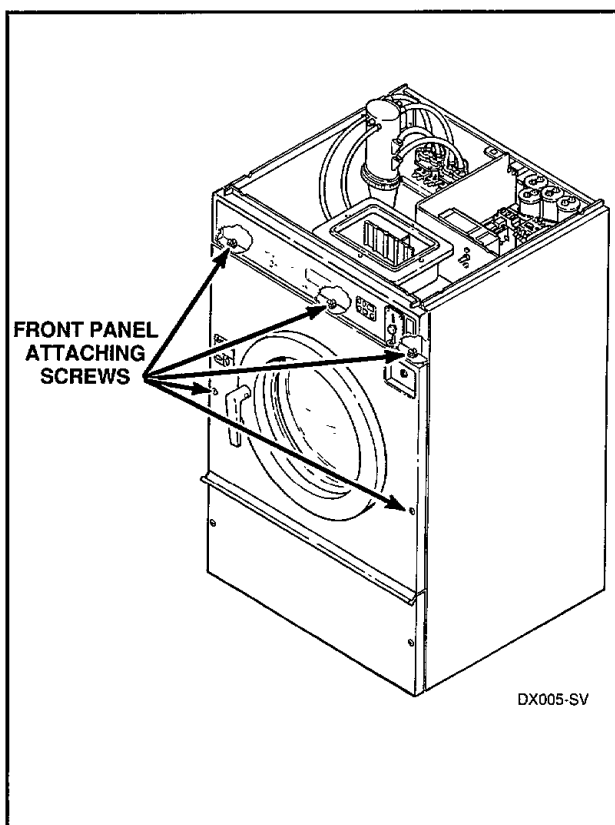

Figure 6
- Remove two screws and cupped washers holding front panel to side panel, *Figure 6*.
- While supporting front panel, remove three screws, lockwashers and nuts holding top flange of front panel to lower flange of front channel, *Figure 6*, and remove front panel and gasket from washer.
- g. While supporting front panel, remove three screws, lockwashers and nuts holding top flange of front panel to lower flange of front channel, *Figure 6*, and remove front panel and gasket from washer.